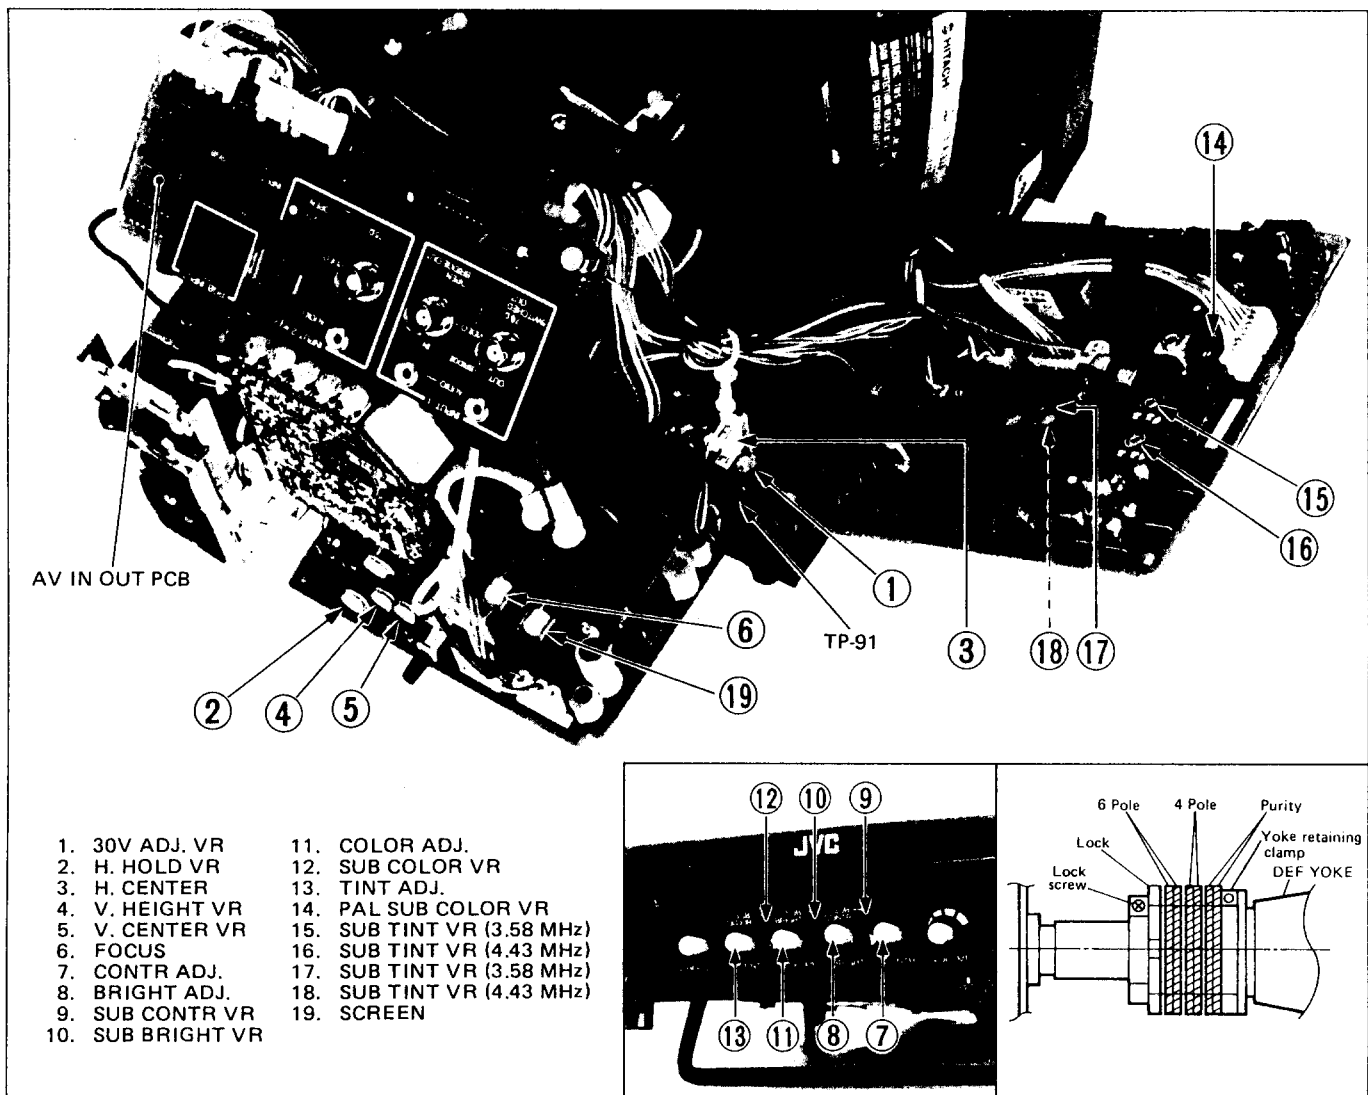

Fig. 2-1
Loosen the yoke retaining clamp. PAINT is used to lock the tabs of the purity/convergence magnet assembly in place. The paint must be removed with the end of a screwdriver, and then unfasten the magnet locking ring counterclockwise (Fig. 2-1) before any adjustments are attempted.
4. Turn the GREEN CUT-OFF VR maximum and the RED and BLUE CUT-OFF VR's to minimum. Then adjust the SCREEN VR so that the green band can be seen best. (Fig. 2-1, 2-7)
3. Turn the RED, GREEN and BLUE CUT-OFF VR's and the SCREEN VR fully counterclockwise. (Fig. 2-1, 2-7)